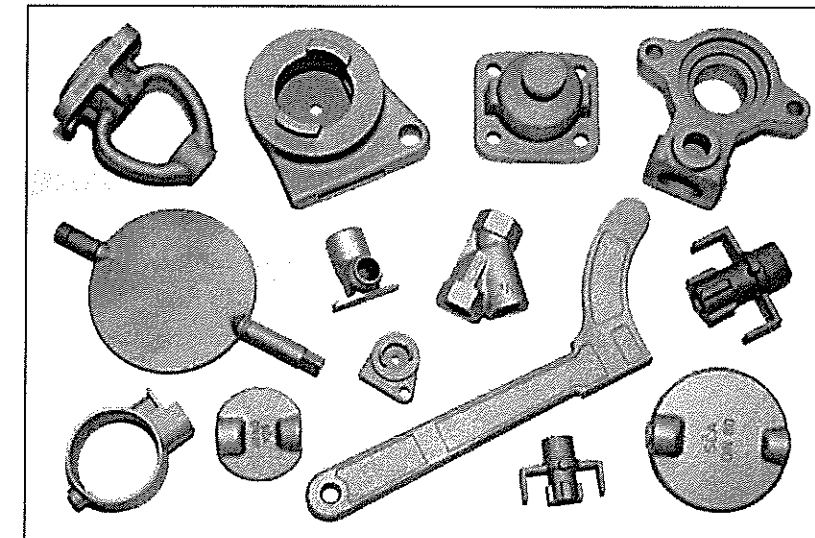

Figure Q4(b) / Gambarajah S4(b)
- b) Which casting process would be suitable for making a product as shown in Figure Q4(b). With appropriate sketches, describe the procedures that involve and why this casting process selected.